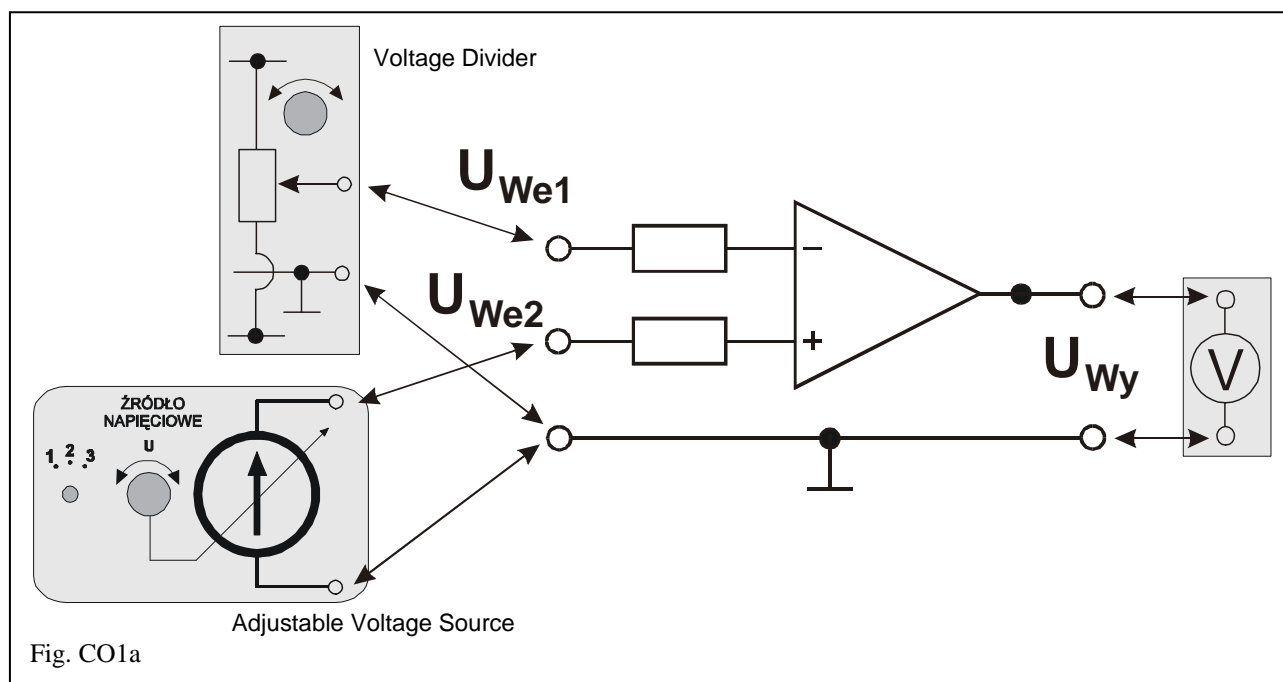

Fig. CO1a
(The schematic setup is presented in Fig. CO1a)
1. Connect the circuit according to the diagrams presented in Figs. CO1a and CO1b. Set the switches R_3 and R_L to the " ∞ " position. Set the rotary function switch on DMM's voltmeters to the 20 DCV.